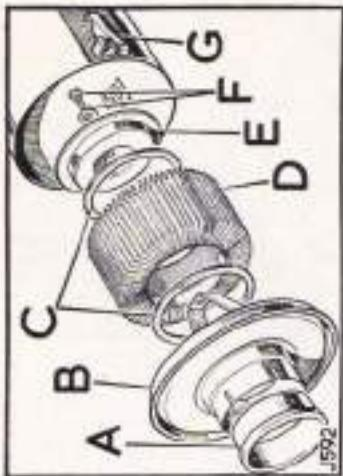

Fig. 7 Air cleaner element replacement
- To replace the air cleaner element proceed as follows: (Fig. 7)
1. Release the three clips at (G) at each side of air cleaner casing and withdraw the frames and elements.
2. To replace the elements remove the screw and washer (F) on the frame (B). Remove end cap (E) and sealing washer (C).
3. Discard old elements (D) and replace with new units.
4. Ensure that sealing washers (C) on frame and end cap are in good condition and correctly located.
5. Check condition of rubber seals (A) on end of air cleaner frame. Replace if necessary.